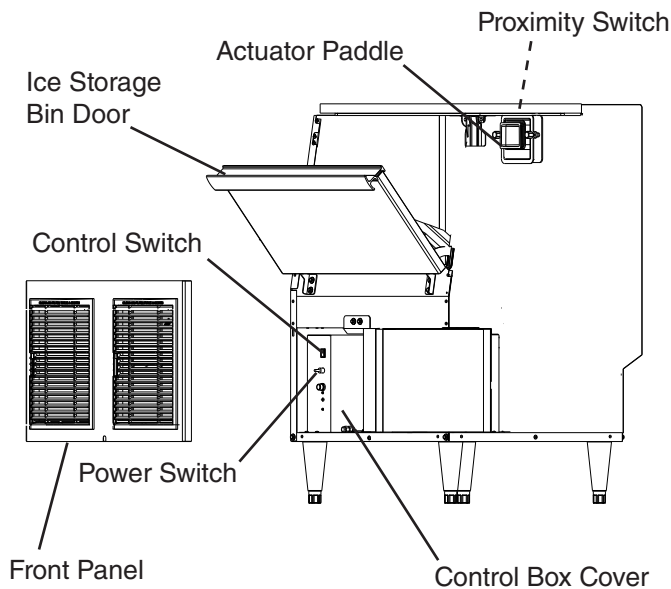

Fig. 2
- 3) Open the ice storage bin door so that you can access the actuator paddle located in the top of the bin. See Fig. 2.
- 10) Press the actuator paddle located in the top of the bin toward the front of the appliance. See Fig. 2.